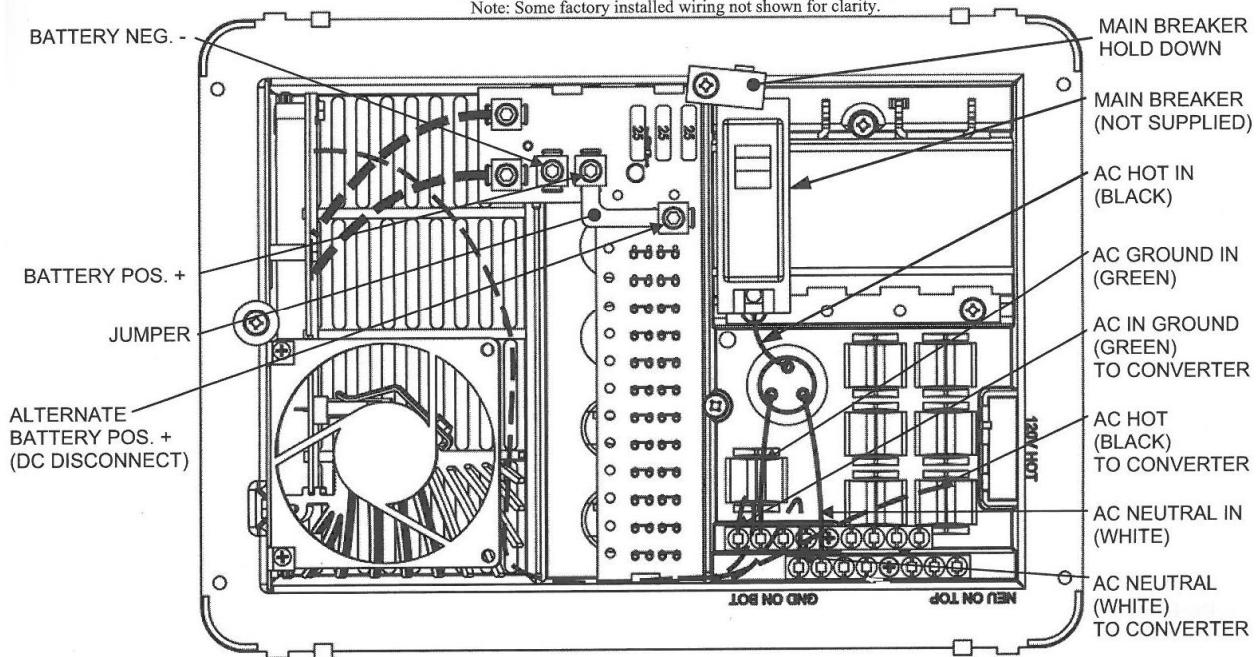

Fig. 2 - The wiring diagram provided with the installation guide.
8. If no battery, run a wire from the DC negative buss bar you set up in Step 6 to the lug marked in Fig. 2 as BATTERY NEG. -.
- a. Connect the black battery wire from the negative pole of the battery to the negative buss bar you set up in Step 6. Connect another wire from the DC negative buss bar to the lug marked in Fig. 2 as BATTERY NEG. -.
- b. Connect the red battery wire from the positive pole of the battery to the positive lug marked in Fig. 2 as BATTERY POS. +.